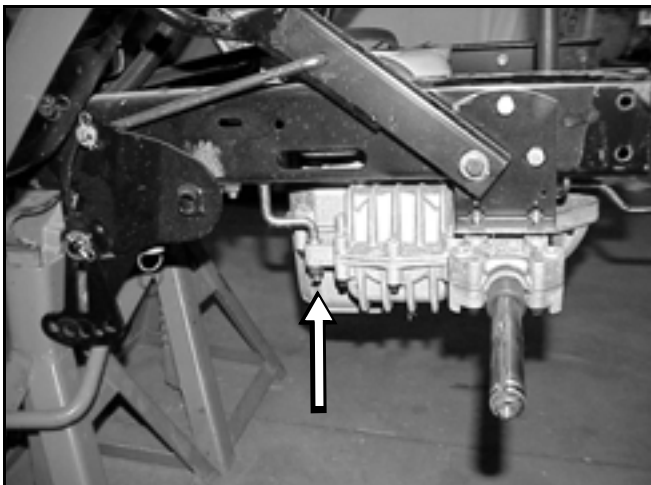

Figure 82
12. Unbolt the torque strap (Figure 82).